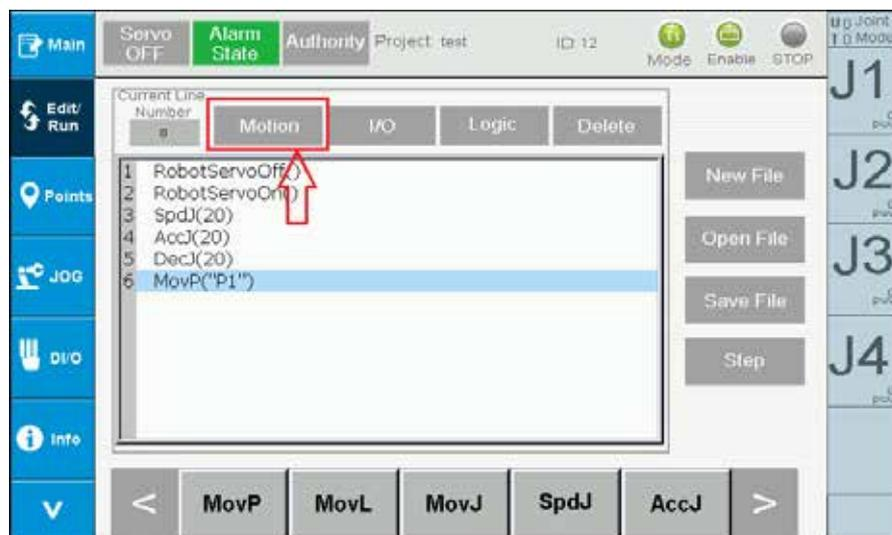

Figure 2-10 Edit/run program for robot - Select command type
2. Select the command type (Motion, I/O, Logic) on the top of the RL display, shown as Figure 2-10.